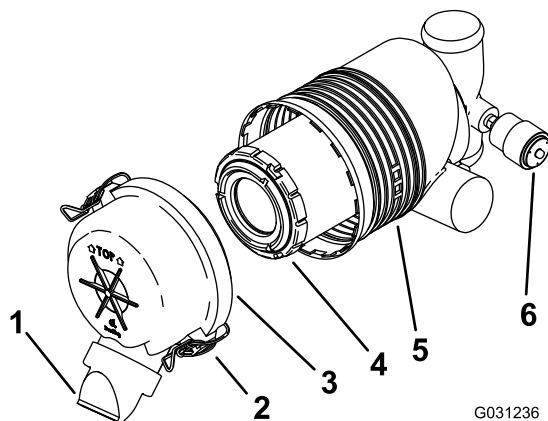

Figure 44
Important: Service the air-cleaner filter only when the service indicator shows red (Figure 44). Changing the air filter before it is necessary only increases the chance of dirt entering the engine when the filter is removed.
4. Release the latches on the air cleaner and pull the air-cleaner cover off the air-cleaner body (Figure 44).
1. Gently slide the filter out of the air-cleaner body (Figure 44).
4. Carefully install the filter (Figure 44).
5. Install the air-cleaner cover with the side indicated as TOP facing up and secure the latches (Figure 44).